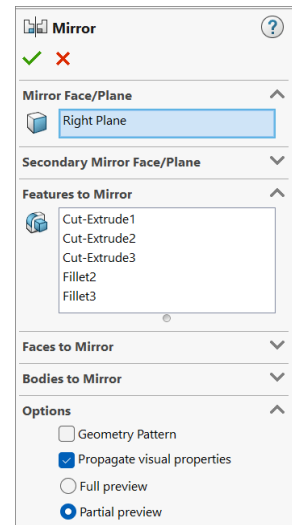

Fig. 30
Step 3. In the Mirror Property Manager click OK , Fig. 30.